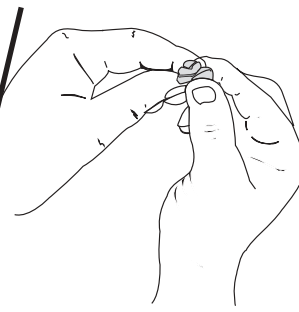

Figure 30
5. Squeeze the filter to spread and remove excess oil. See Figure 30.